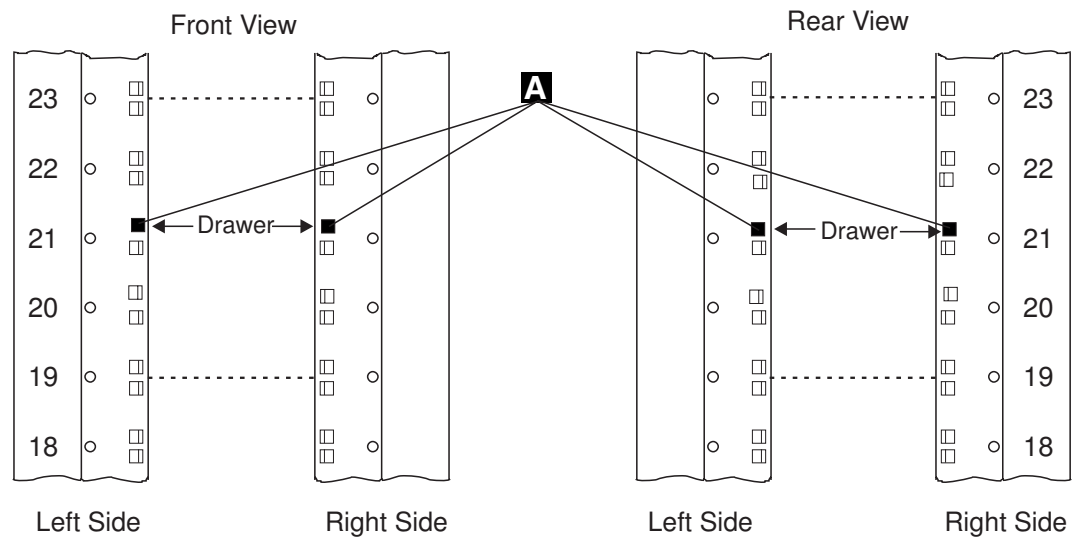

Figure 1-5. Installing Captive Nuts for the Service Drawer
8. Refer to Figure 1-5, and if needed install four captive nuts **A** (PN 58G5766) on the front and on the rear side of the controller expansion, to install the service drawer.